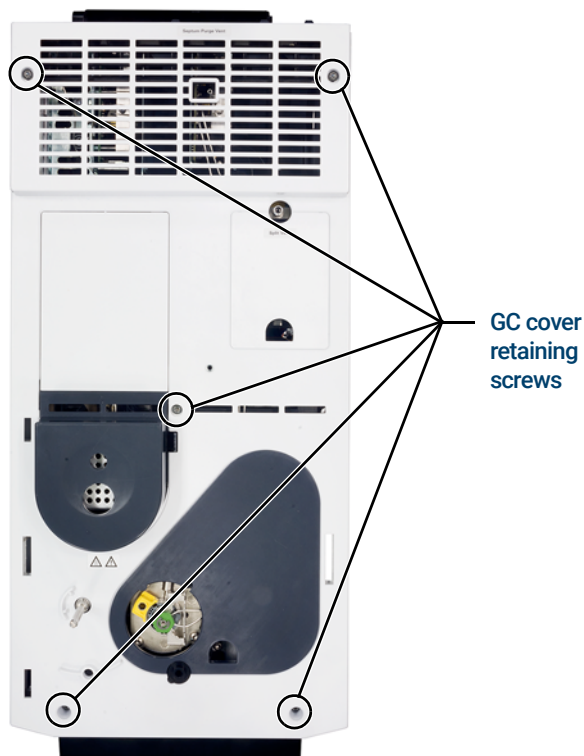

Figure 4. GC top cover removal
- d Using a T20 Torx driver, completely loosen the five captive screws securing the top cover to the GC, and lift the cover off of the GC. See **Figure 4**.